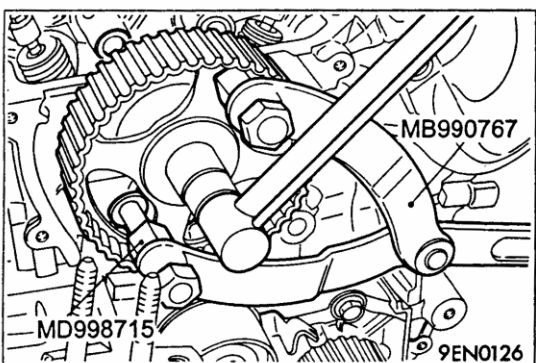

Fig.4-10
(1) INSTALLATION OF CAMSHAFT SPOCKET BOLT
- b Tighten the camshaft sprocket bolt to the specified torque, see Fig.4-10.